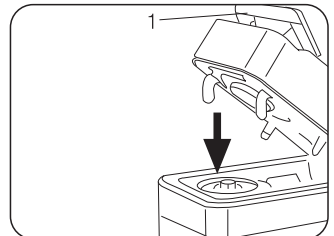
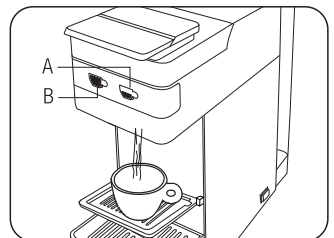

Fig. 9
Fig. 10
- Close the lever (1) (**Fig. 9**) completely and press one of the dispensing buttons: short (A), big (B) according to your taste (**Fig. 10**)
Big cup: Press and hold the button (B). The machine will start delivering water. Once the desired water level is reached release the button (B). The machine will then stop delivering water and the desired quantity will be memorized for future dispensing. (**Fig. 10**)
Small cup: Press and hold the button (A). The machine will start delivering water. Once the desired water level is reached release the button (A). The machine will then stop delivering water and the desired quantity will be memorized for future dispensing. (**Fig. 10**)